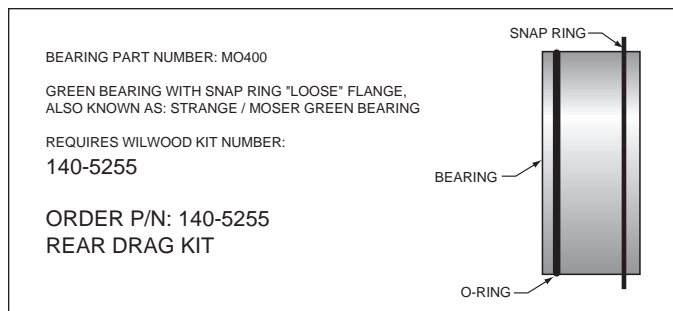

Figure 2. Loose Fit Bearing Configuration
- It is important to verify which bearing you have. There are two types of "Green Bearings" being supplied by axle manufacturers, each one requires a specific Wilwood rear disc brake kit for proper installation. Your setup should look like Figure 2, otherwise you have the wrong kit.